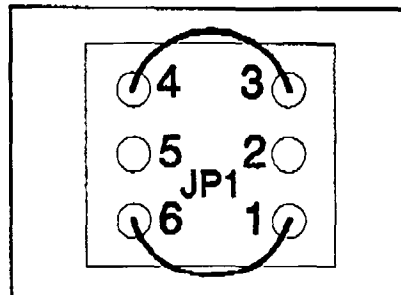

Figure 1 Jumper Area for Primary Voltage Selection
The power transformer has two independent 120 V ac primary windings and each has a 100 V ac tap. The windings can be series-connected or connected in parallel to match the required ac line voltage. This is accomplished by installing a short jumper wire(s) across the numbered pads as shown in Figure 1 and Table I.
3. Referring to Figure 1, remove and salvage the jumper wire(s) from the board between pads 1-6 and 3-4.